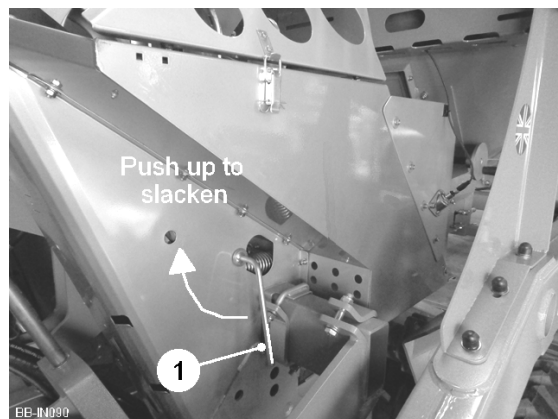

Fig. 9
The spring tensioner handle (item 1, fig. 9) keeps the cup chain tensioned during work and also allows the chain to be slackened to manually rotate the chain when changing the cup inserts. To slacken the cup chain, grip the handle tightly and push the handle upwards.
*Take great care when using the tensioner handles (item 1, fig. 9) as the over-centre action of the handles can cause injury.*